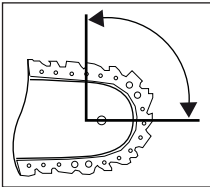

Fig. 1
- Contact with the tip of the rail can, in some cases, lead to an unexpected rearwards reaction resulting in the guide rail **23** flying upwards towards the operator (see Fig. 1).